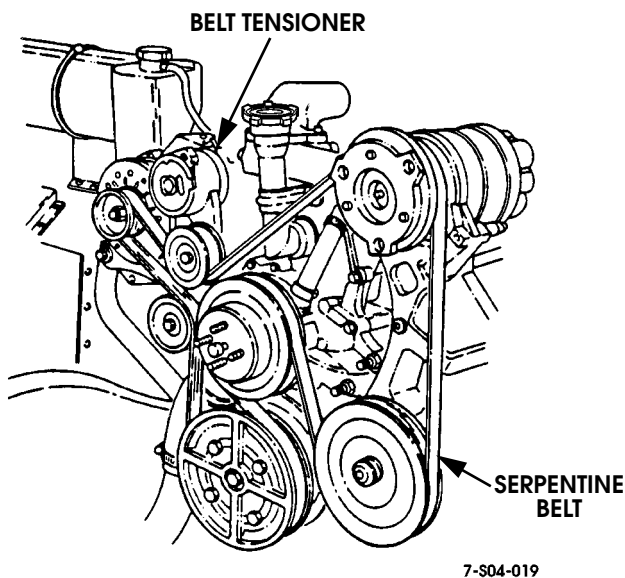

Figure 2-17: Serpentine Belt Tensioner Location
- a. Loosen drive belt by rotating belt tensioner in counterclockwise direction (Figure 2-17). Use 1/2 in. drive breaker bar to rotate pulley.
8. Loosen and remove serpentine drive belt. Use 1/2 in. drive breaker bar to rotate belt tensioner counterclockwise to loosen belt (Figure 2-17).